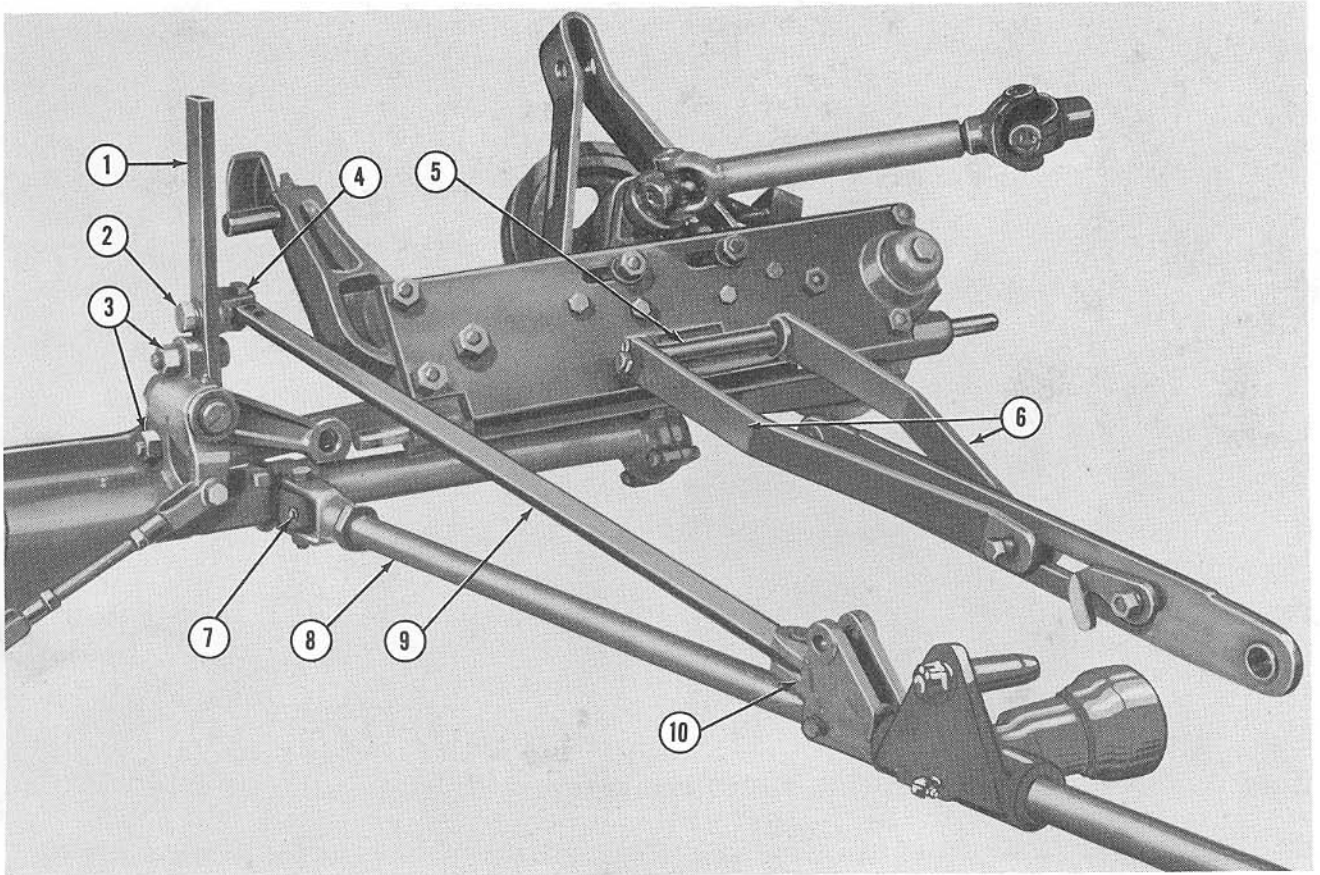

Figure 5
5. Tilt the mower main frame to the rear as shown in Figure 5 and attach the top link anchor straps (6) to the bracket on the front of the main frame. Secure with the $\frac{3}{4}$ " x $8\frac{7}{8}$ " pin (5), flatwashers and cotter pins as shown.
6. Attach the tilt lever (1), Figure 5, to the hinge casting with the two bolts (3) and secure with the lockwashers and nuts provided. Attach the tilt link yoke (4), Figure 5, to the left side of the tilt lever with a spacer, flatwasher, lockwasher and $\frac{5}{8}$ " x $1\frac{5}{8}$ " bolt (2), as shown.
7. Attach the yoke end of the pull bar (8), Figure 5, to the eye (7) on the drag bar with the $\frac{1}{2}$ " x
- a. Attach the forward end of the tilt link (9) (forward end has only one hole) to the bracket (10), as shown in Figure 5, and secure with a $\frac{1}{2}$ " x $1\frac{7}{16}$ " pin and cotter pin.
- b. Attach the rear end of the tilt link (9) to the yoke (4), Figure 5, with a $\frac{3}{8}$ " x $1\frac{3}{8}$ " bolt, lockwasher and nut.